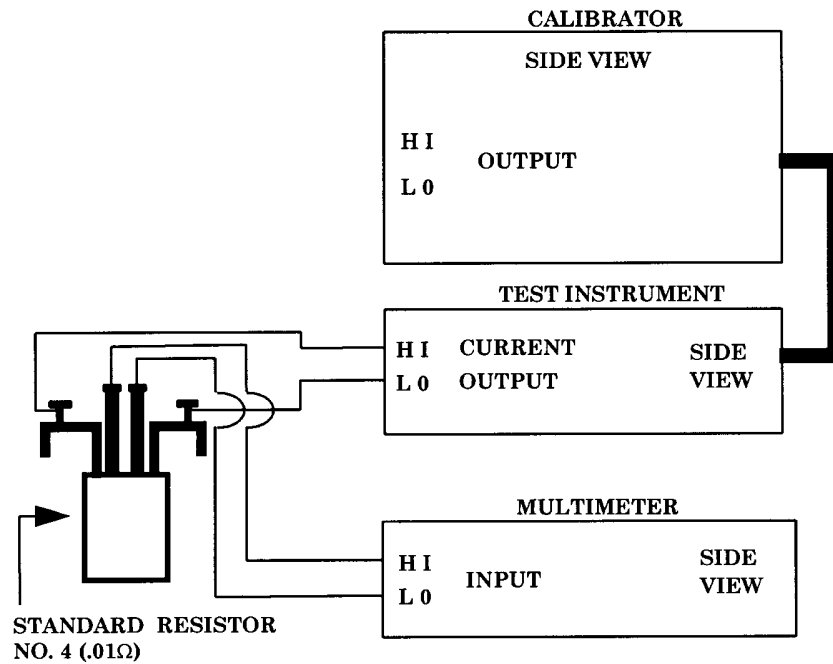

Figure 15. Dc current (5 and 10 A).
a. Connect equipment as shown in figure 15.